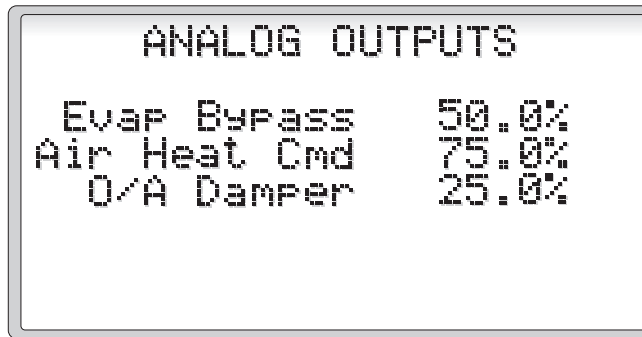

Figure 58
2.3.3.6.4 Analog Outputs (Figure 58)